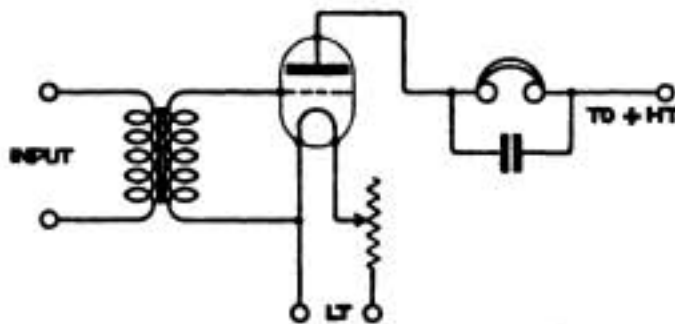

Fig. 1.
ment for this purpose would be as a note magnifier as in diagram (Fig. 1). (3) No correction is necessary for the longitude of Paris.